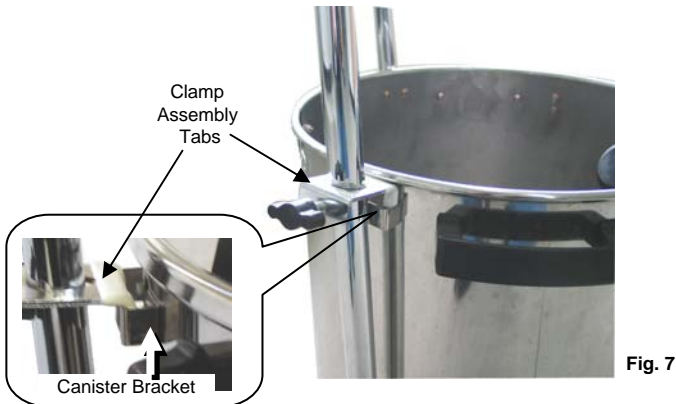

Fig. 7
2. To attach the canister to the handle supports, align the canister brackets on each side of canister with the supports. (Fig. 7)
3. With the clamp assembly tabs facing downwards, slide a clamp assembly onto the right and left caddy support. (Fig. 7)